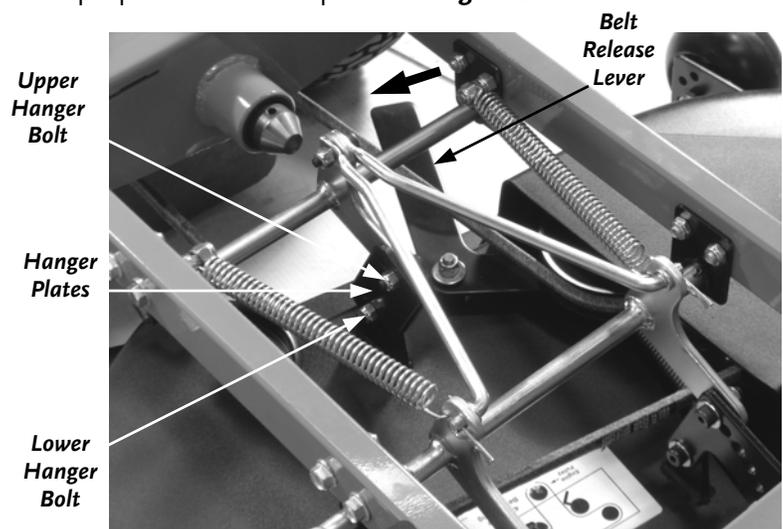

Figure 18
3. Push the Belt Release Lever (**Figure 18**) and remove the Belt from the Deck Pulleys and the Engine Pulley. Check to be sure that the Deck Pulleys are tight; replace them if worn.
4. Using a 1/2" Wrench and/or Socket, only loosen the upper Hanger Bolt and then loosen and remove the lower Hanger Bolt on the rear Hanger Plates (**Figure 18**). Swing the Hanger Plates out of the way so the Belt clears and then remove the Belt.